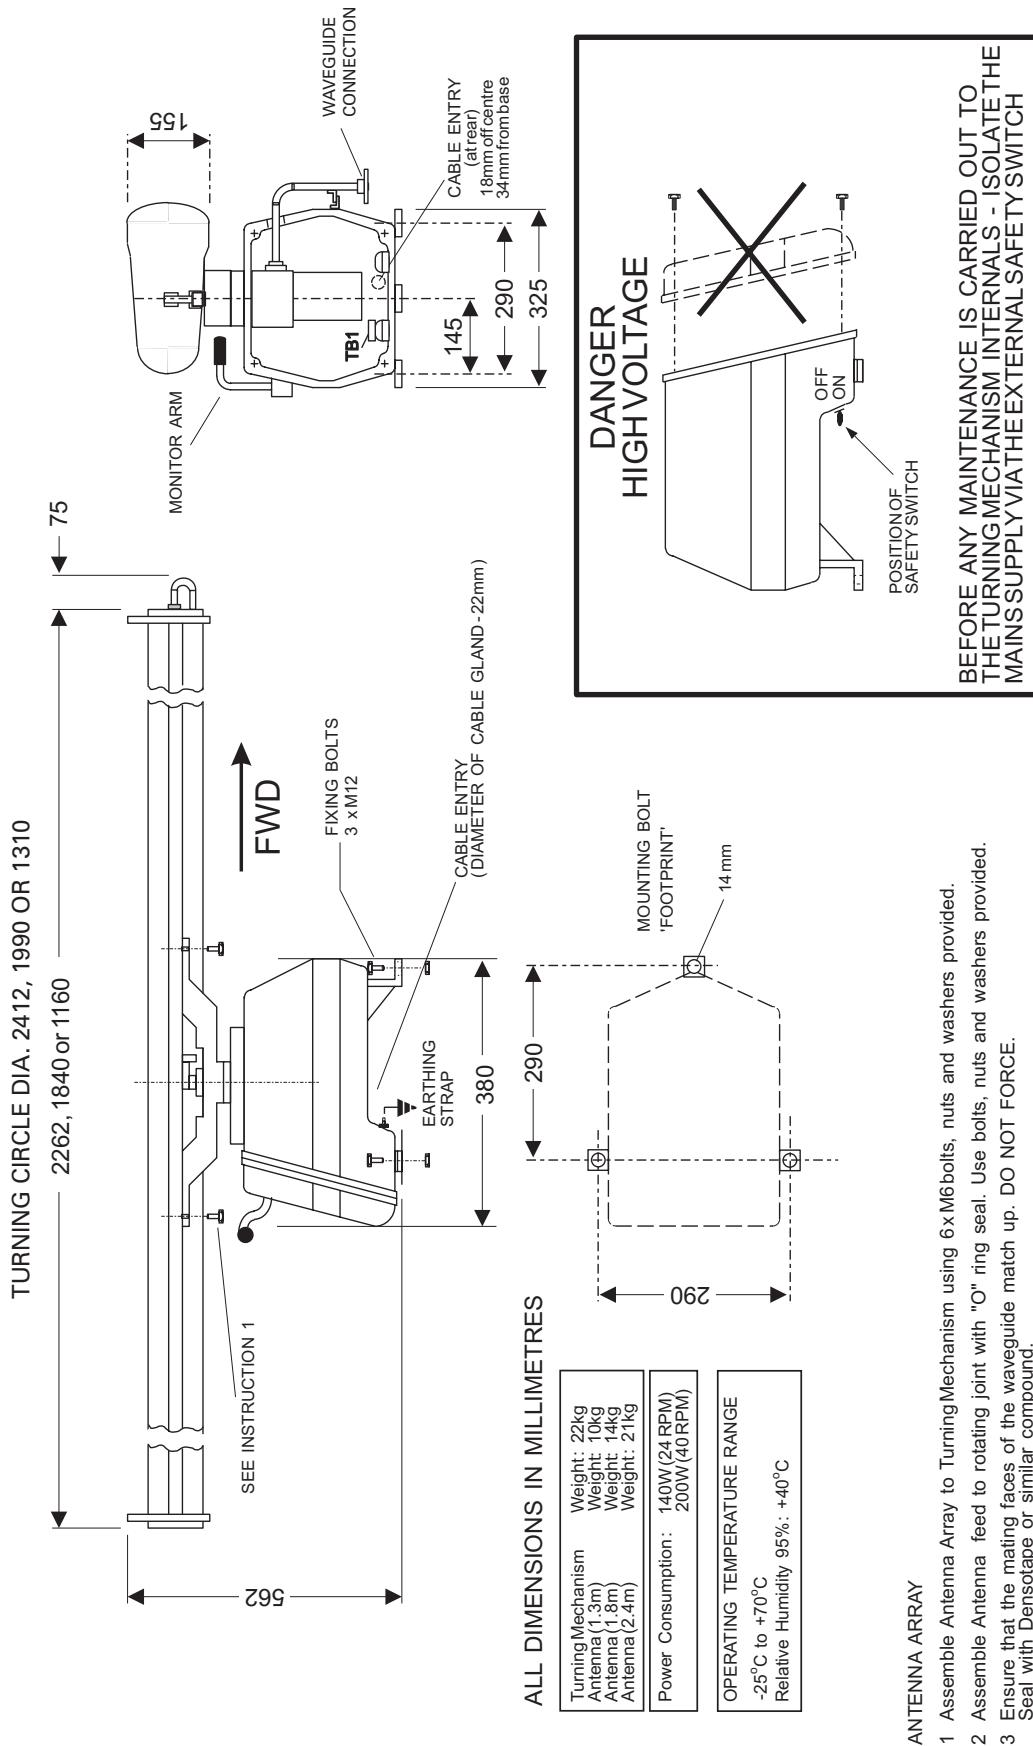

Figure 1f - Turning Unit Fixing Centres and Outline Dimensions
- 12 A flat steel plate (12 mm thick approx.), pre-drilled (in accordance with Figure 1f) to accommodate the Turning Mechanism and the cable and waveguide from the Transceiver. The steel plate must be mounted horizontally and braced with struts for rigidity.
26 The Antenna and Turning Mechanism are specified and supplied separately. Refer to Figure 1f of this chapter for outline dimensions and fixing centres. The following criteria are to be observed when installing:
The outer casing of the Turning Unit must be bonded to the ship's superstructure using a copper earthing strap connected to the earthing point shown in Figure 1f.